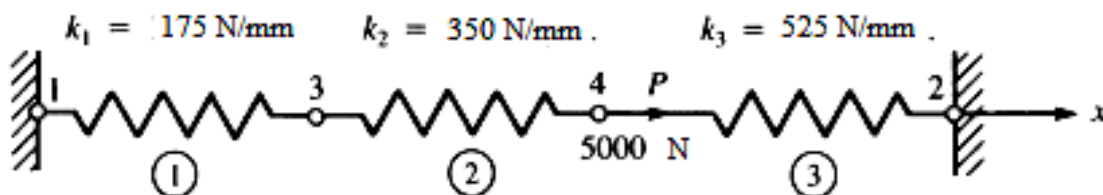

Figure 1
3. For the spring assemblage with arbitrarily numbered nodes shown in figure 1, obtain (a) the global stiffness matrix, (b) the displacements of nodes 3 and 4. A force of 5000 N is applied at node 4 in the x direction. The spring constants are given in the figure. Nodes 1 and 2 are fixed. [10]